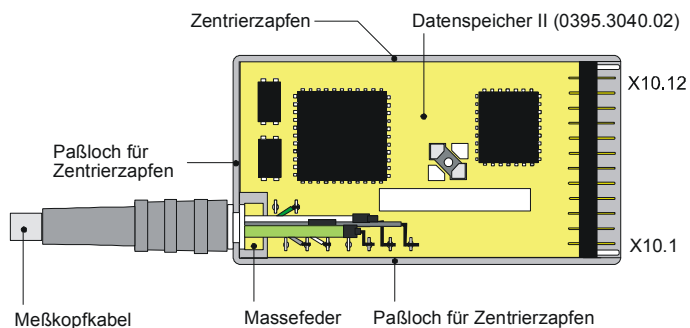
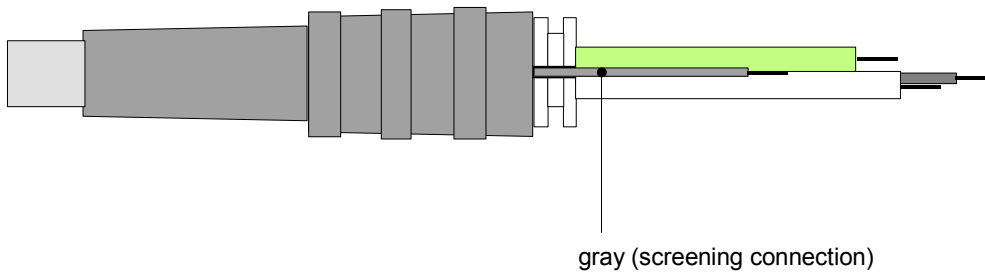
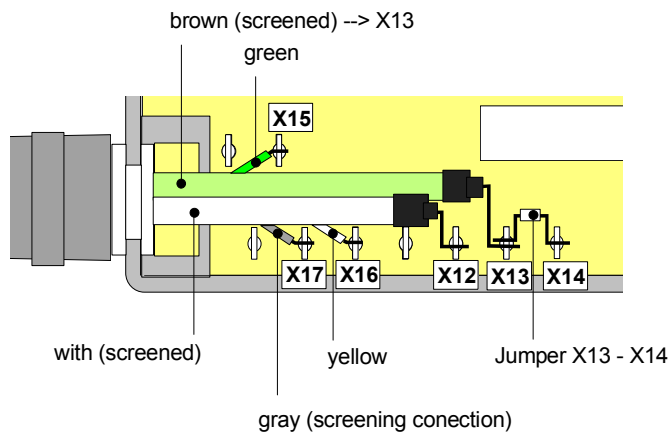

Fig. 6-17 Opened casing showing data memory 0395.3040.02, wired for the R&S®NRV-Z4/-Z5 sensor
Fig. 6-18 Location of gray wire for connecting outer braided screening
Fig. 6-21 Wiring of data memory 0395.3040.02 for the R&S®NRV-Z6 sensor
- Insert data memory 0395.3040.02 with flash EPROM and connect as indicated in Fig. 6-17 to Fig. 6-21. Since the R&S®NRV-Z4 and R&S®NRV-Z5 sensors have two gray wires, identify the screening connection using Fig. 6-18. You can identify the gray screening connection as it is fed through a groove to provide strain relief and is relatively stiff in comparison with the other wires